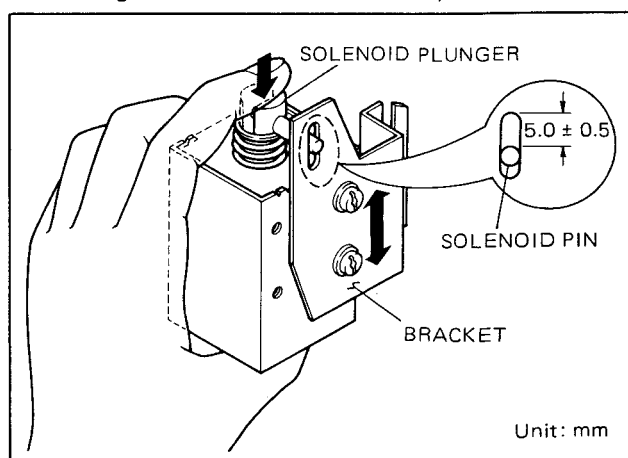

Fig. 3-37. Bracket Position Adjustment
5. Adjust so that the distance between the solenoid pin and the end of the longitudinal hole of the bracket becomes $5.0 \text{ mm} \pm 0.5 \text{ mm}$ as shown in Fig. 3-37, and then fix the bracket securely.